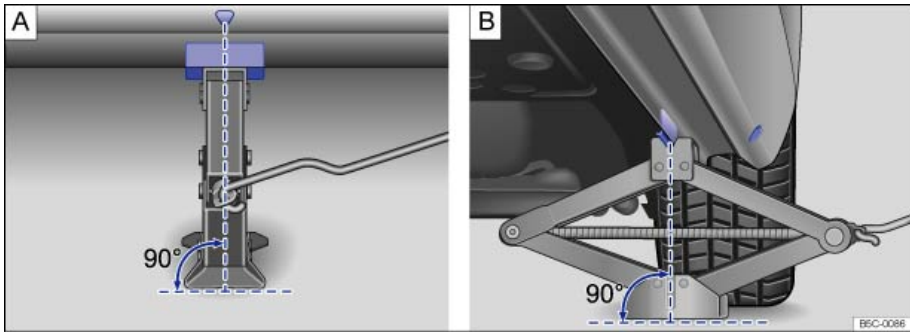

Fig. 181 Jack in position at the left rear lift point.
10. Position the jack so that its base is directly underneath the lift point ⇒ fig. 181, making sure that the entire base of the jack rests securely on the ground.